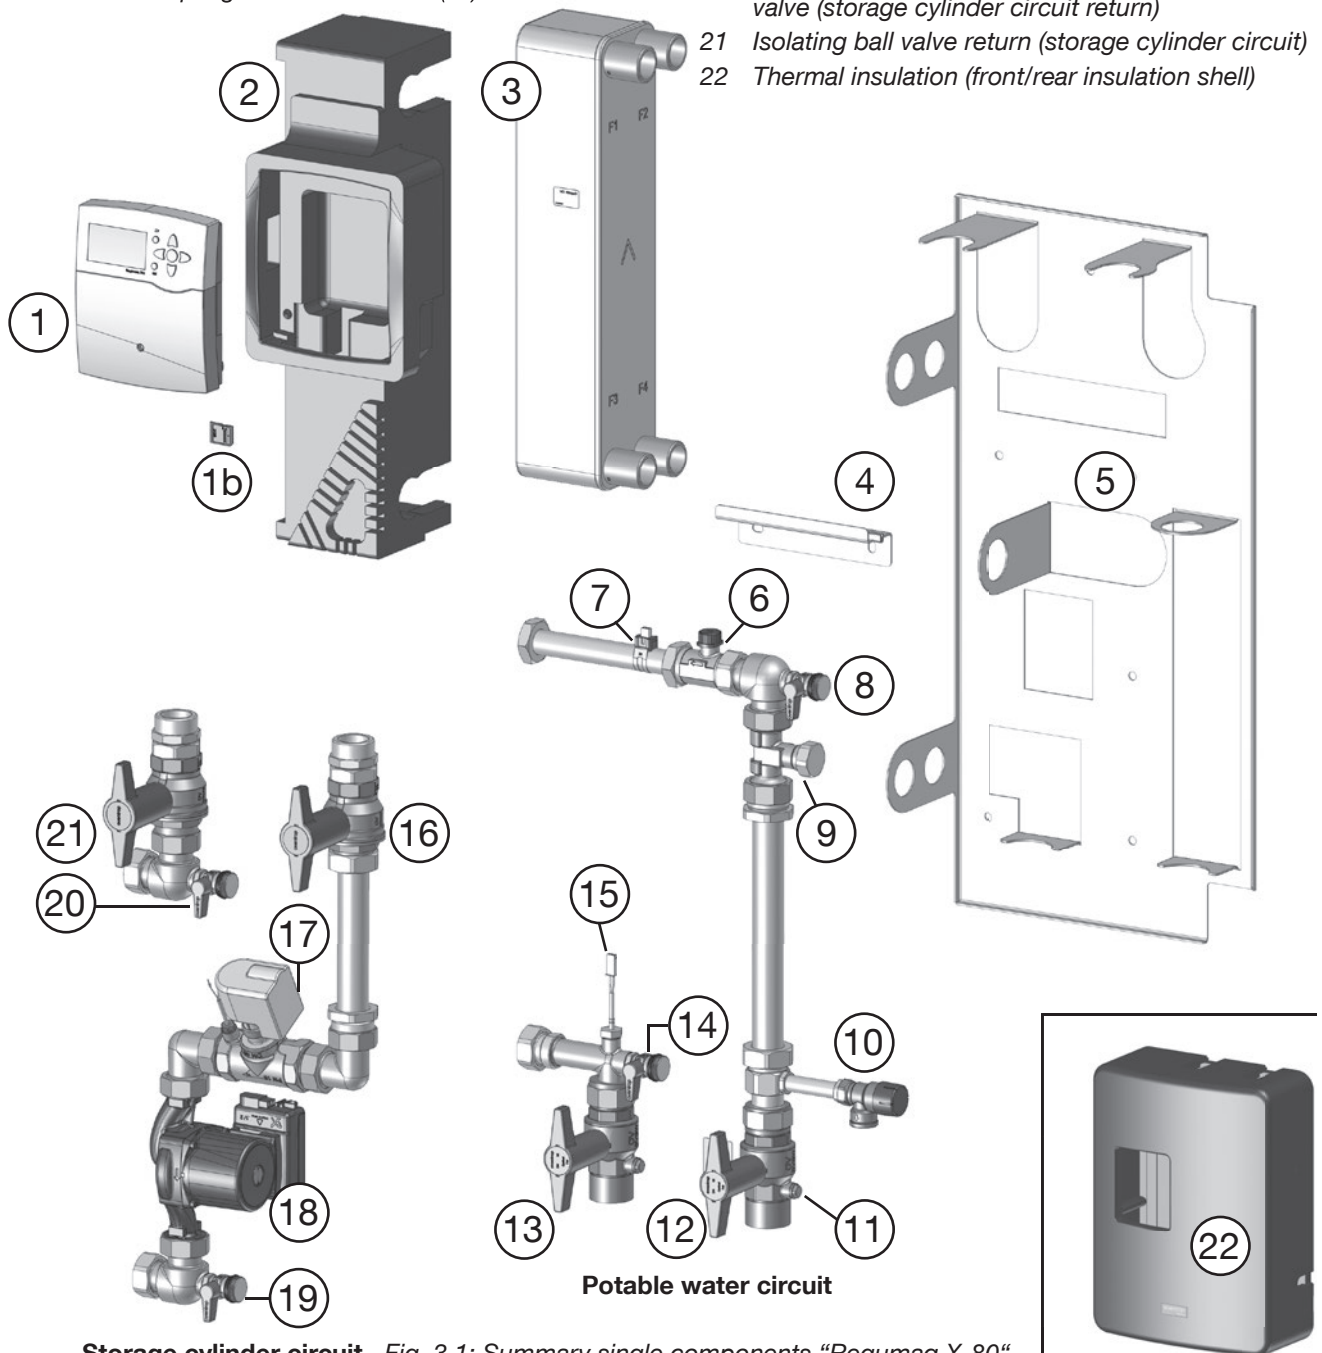
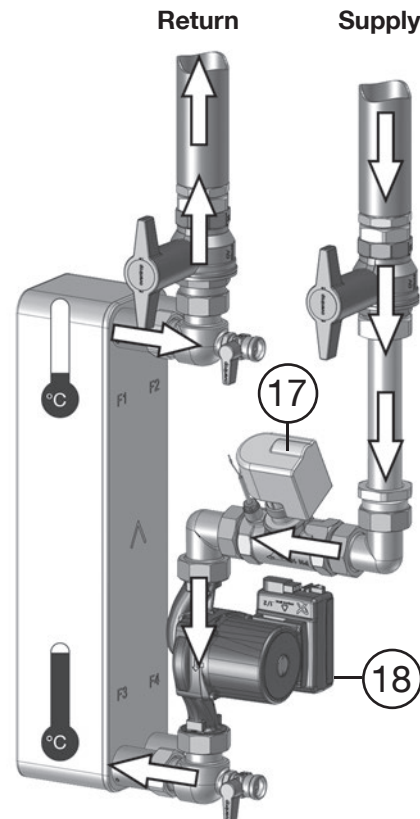
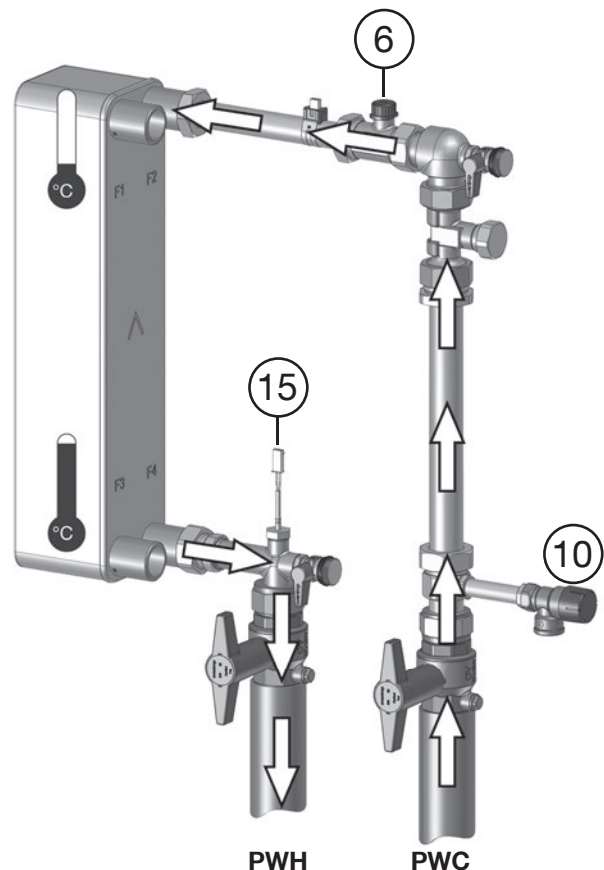

Fig. 3.1: Summary single components “Regumaq X-80”
Fig. 3.2: Storage cylinder circuit side with supply from and return to the buffer storage cylinder
Fig. 3.3: Potable water side with hot water supply (PWH) and cold water connection (PWC)
With a given potable water temperature of 60 °C and a storage cylinder temperature of 80 °C, the hot potable water discharge capacity may vary between 1 and 80 l/min. The hot potable water supply is regulated by the controller (Fig. 3.1, pos. 1) which adjusts the pump (Fig. 3.2, pos. 18) to a (variable) speed in order to feed heating water from the connected buffer storage cylinder into the heat exchanger according to requirements. On the basis of the actual volume flow and temperature (of the potable water) detected by the sensors 6 and 15 (Fig. 3.3), the controller calculates the pump speed which is necessary to achieve the required potable water temperature and switches the throttling valve if required (see below).
The station allows for a heat supply according to requirements even with very low potable water consumption. The minimum delivery capacity of the pump (18) is reduced even further by the **throttling valve** (Fig. 3.2, pos. 17) integrated in the storage cylinder circuit. The valve closes from a draw off capacity of approx. 20 l/min.